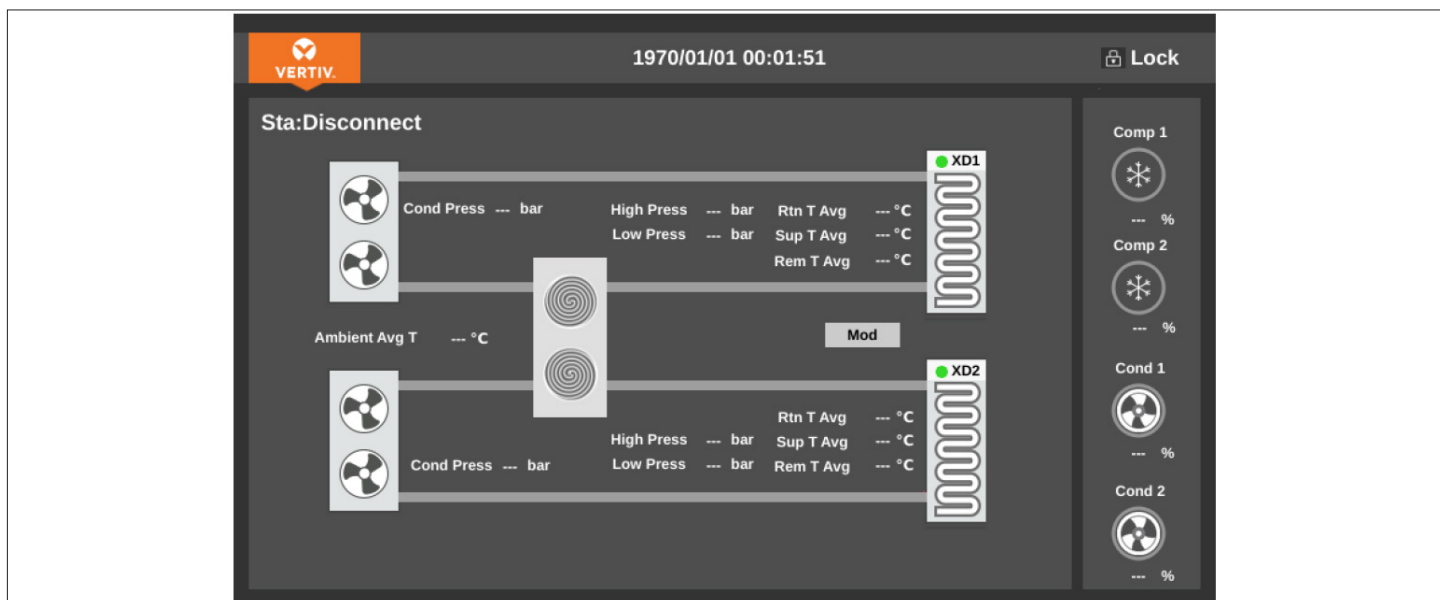
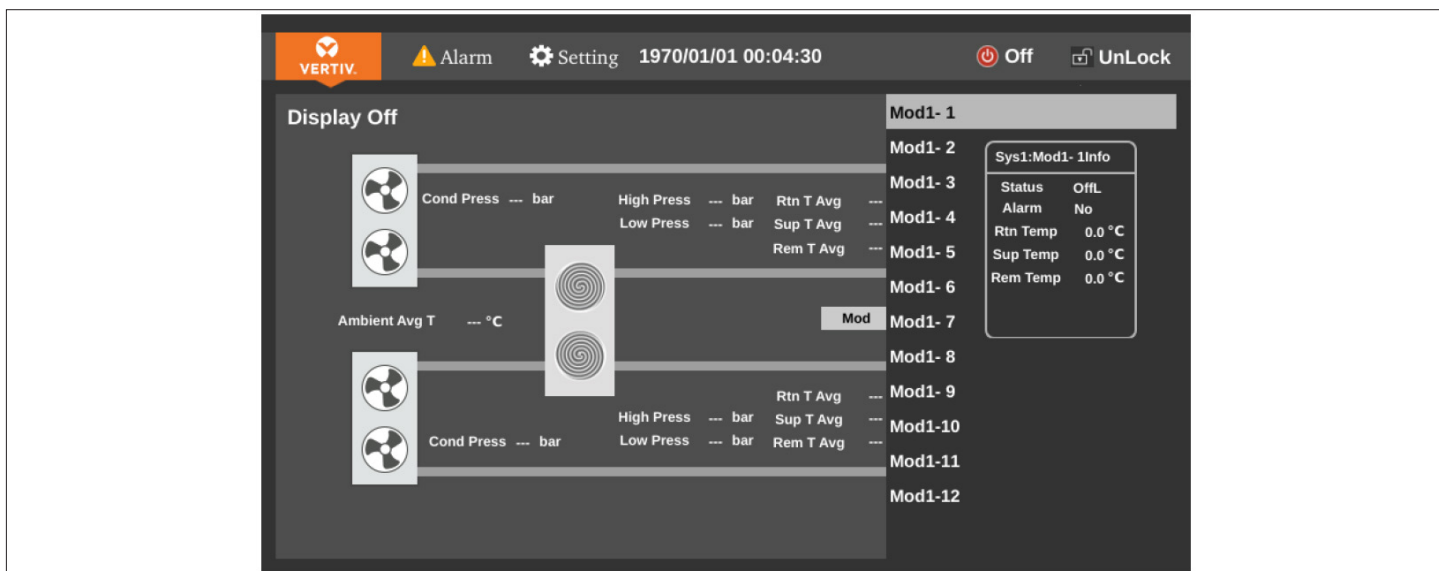

Figure 5-3 Color Screen Interface-locked
Figure 5-4 Color Screen Interface-unlocked
- The middle part displays the main operating status of the unit; the rightmost part displays the output status of the main adjustment components of the unit (such as compressor, outdoor unit), as shown in Figure 5-3 and Figure 5-4.